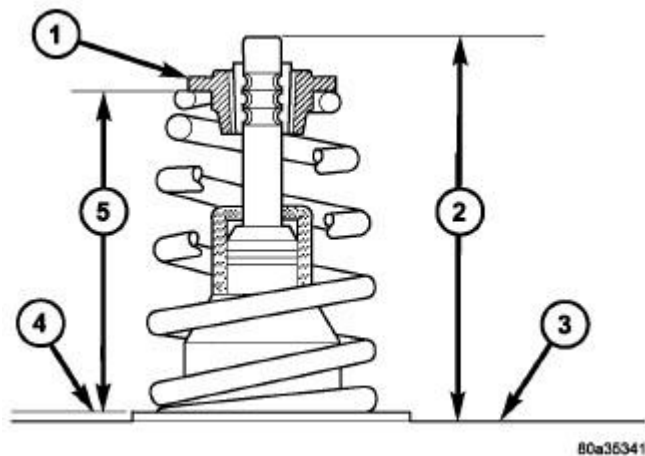

Fig. 84: Valve Spring Installed
4. Slowly release the spring tension. Ensure the retainer locks are seated properly. Refer to **Fig. 84**.